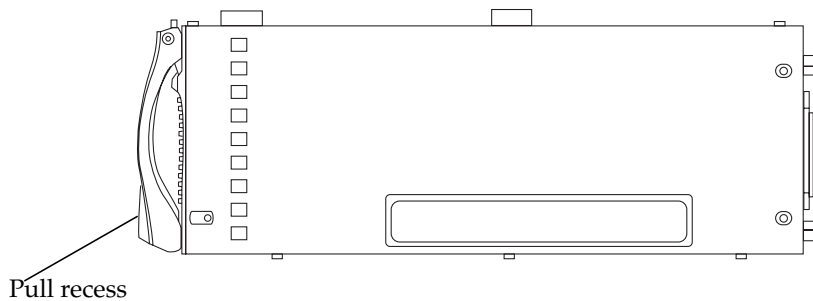

FIGURE 2-4 Blade Locking Mechanism
4. If required, open the blade lever by inserting a finger in the pull recess located in lower portion of the blade lever and pull the lever mechanism in a forward and upward motion, causing the lever to unlatch (FIGURE 2-4).